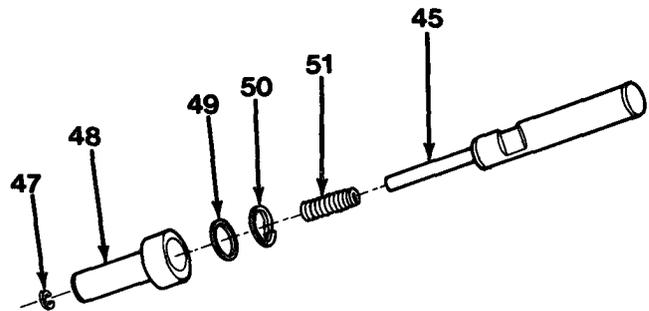

Figure 17-8
9. Remove piston assembly (45) from piston assembly (38) and remove piston ring (46) from piston (38).
10. Remove retainer ring (47) from piston assembly (45). Retainer ring (47) is under tension of spring (51, Figure 17-8).